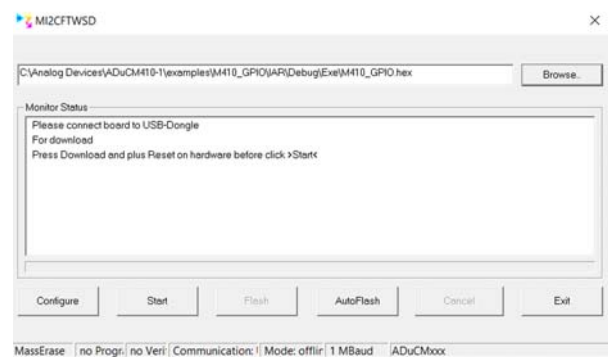

Figure 19. MI2CFTWSD GUI
3. The GUI opens, as shown in Figure 19.